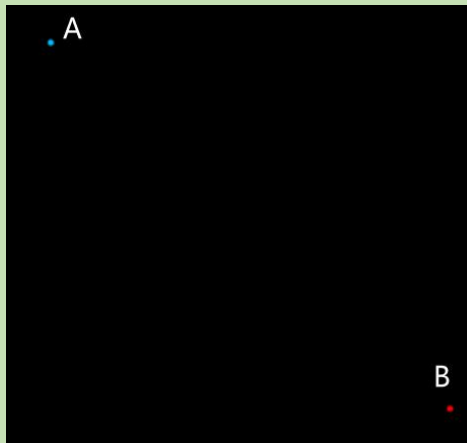

Figure4-39
- (1)click start point A. ( Figure4-39 )